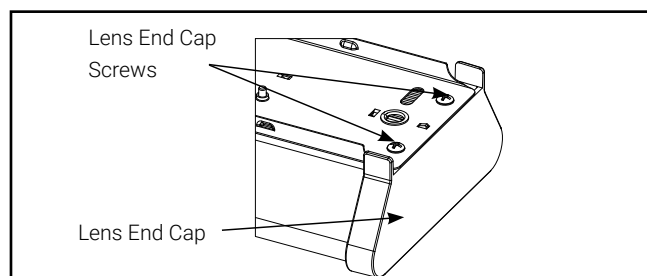

Figure 3.
4. Remove lens end cap screws to remove the lens end caps. Set aside to reinstall. (Figure 3)